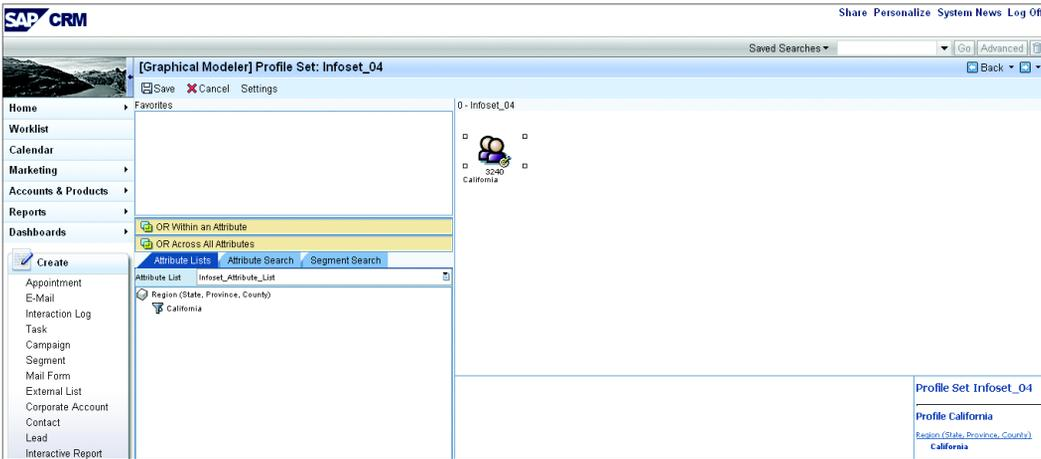

Figure 5.62 Building the Target Group
7. Select the GRAPHICAL MODELER on the PROFILE SET screen. This will take you to the graphical view of the segmentation. Click the ATTRIBUTE LIST tab, and select INFOSET_ATTRIBUTE_LIST. Drag and drop the REGION filter into the staging area (see Figure 5.62).